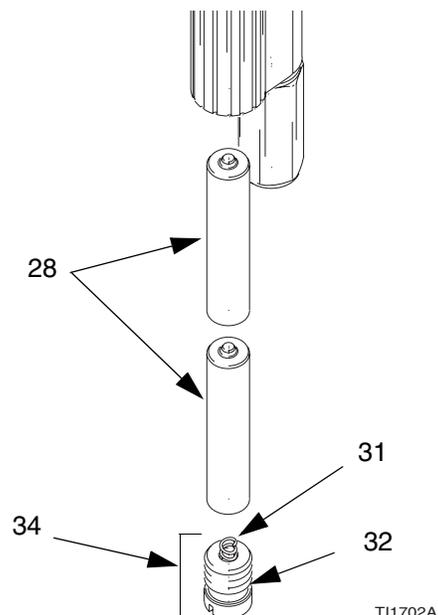

Fig. 5
2. Unscrew the battery cap (34). See Fig. 5.
3. Remove the old batteries (28).
4. Insert the new batteries (28) with polarity as shown.
5. Replace the battery cap (34). Ensure that the gasket (32) and tapered spring (31) are correctly positioned.
13. Insert the batteries (28) into the battery compartment on the handle (29) following the "Battery Replacement" procedure described on page 8 and the diagram in Fig. 5.